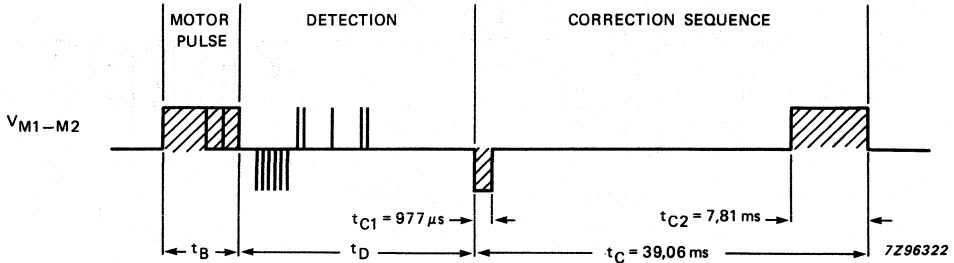

Fig. 8 Correction sequence after a missing motor step with motor connected.
**Correction sequence (Fig. 8)**